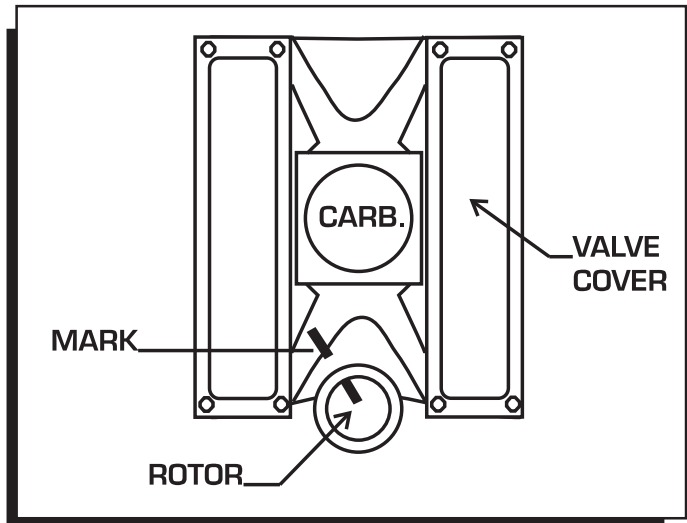

Figure 8 Marking the Rotor Location.
2. With the cap off, crank the engine until the rotor is aimed at a fixed point on the engine or firewall. Note this position on the engine or firewall. Note this position by making a mark (Figure 8).